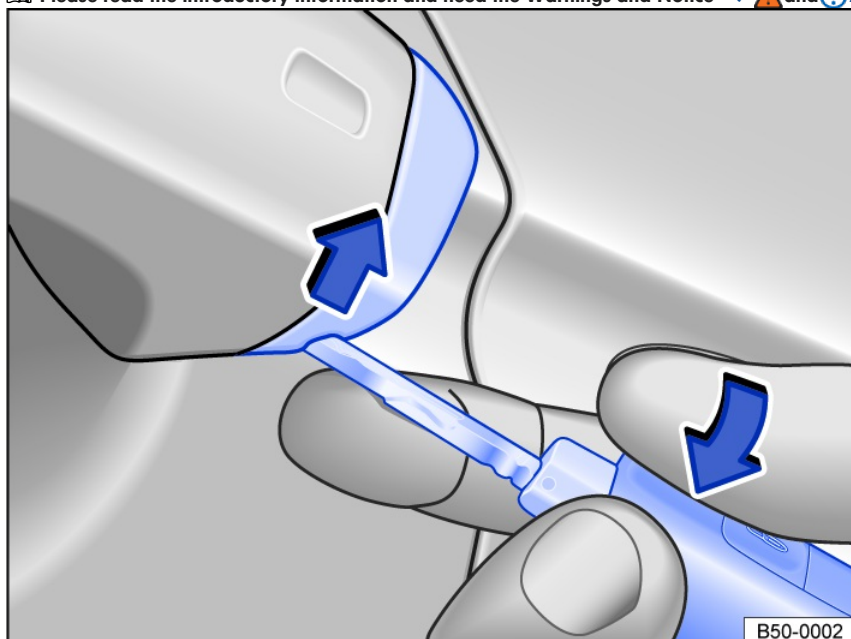

Fig. 57 Driver's door handle: prying off the cap.
- Use the vehicle key to pry the cap off in the direction of the arrow *fig. 57*.